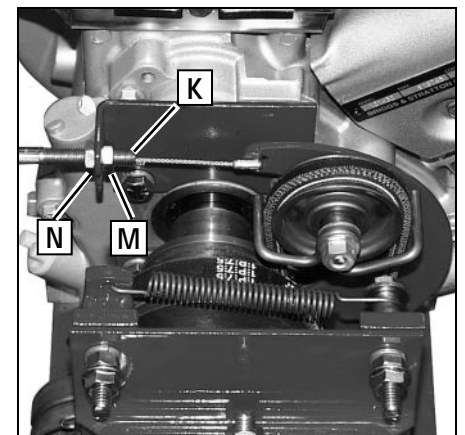

Figure 5-13: Adjust jam nuts.
4. Release the Reverse Clutch control knob. Unthread the inner jam nut (M, Figure 5-13) one to two turns and pull the threaded cable adjuster (K) to the left until the inner jam nut rests against the bracket.
5. Prevent the inner jam nut (M) from turning and tighten the outer jam (N) against the bracket. Prevent the outer jam nut (N) from turning and tighten the inner jam nut (M) against the bracket.